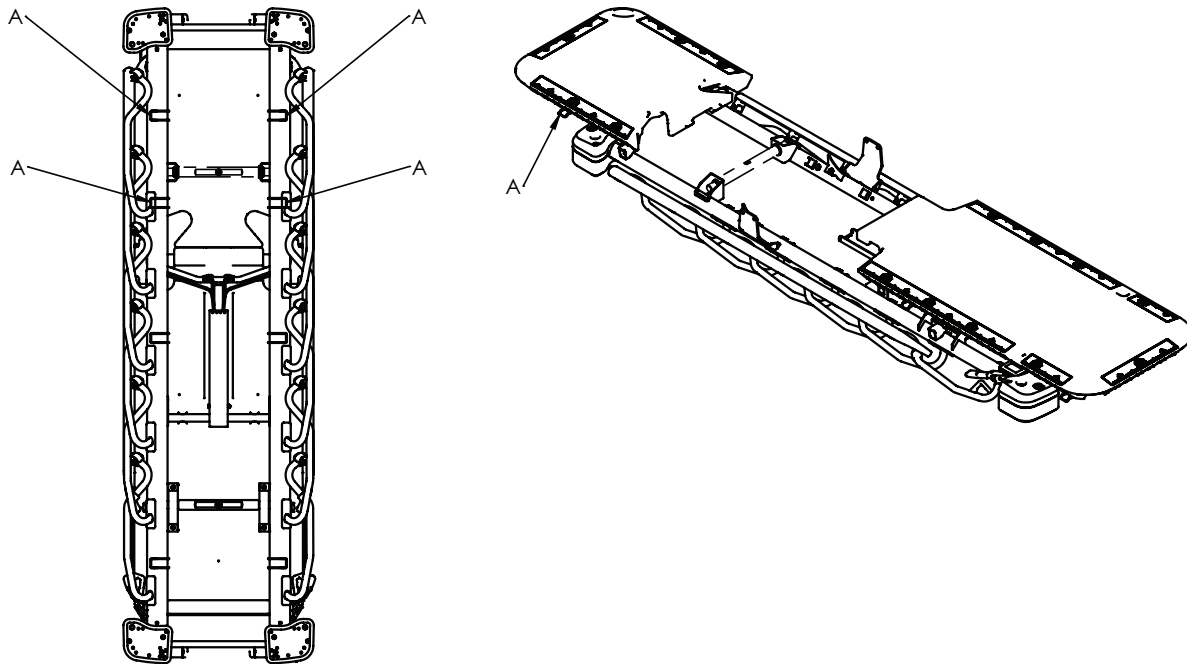

Figure 16 – X-ray cassette panel replacement - head end
5. From below the litter frame, use your hand to unclip the four spring clips (A) that secure the head end X-ray cassette panel to the litter frame (Figure 16).